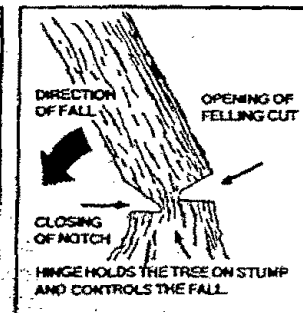

Figure 20
- c. Leave enough uncut wood between the felling cut and the notch to form a hinge. Figure 20.